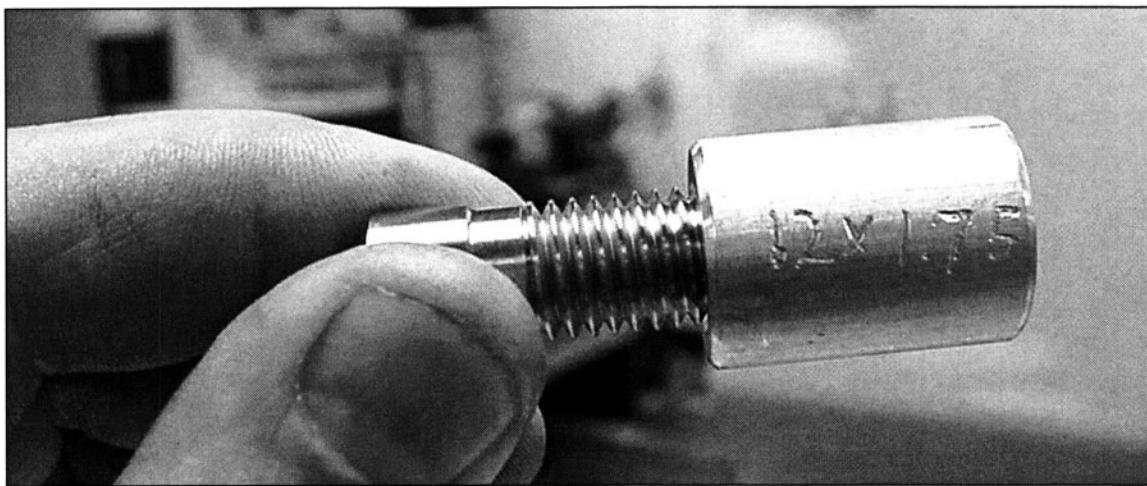

FIGURE 8-5 A decent external thread gauge can be made by carefully tapping a piece of material.
8. Make an external thread gauge with a tap. (See Fig. 8-5)